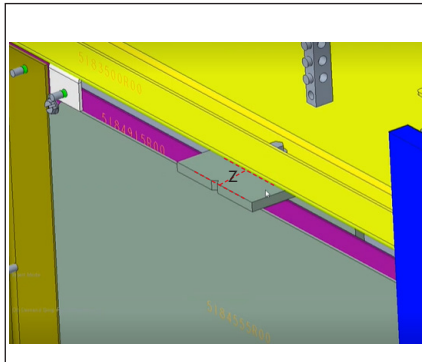

Figure 6: Z-Axis Depth
- 3. Refer to the contract-specific Shop Drawing to determine the Z-axis depth. Measure from the front flange of the chassis to the front flange of each C-clip. Refer to **Figure 6**.